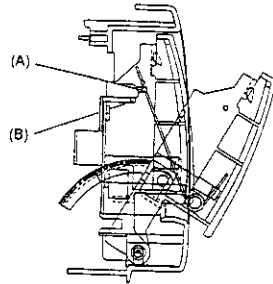

Fig. 5-1
Set the door spring of the DECK I side to position (A) as shown in Fig. 5-1. Then, erect the front panel assembly vertically.